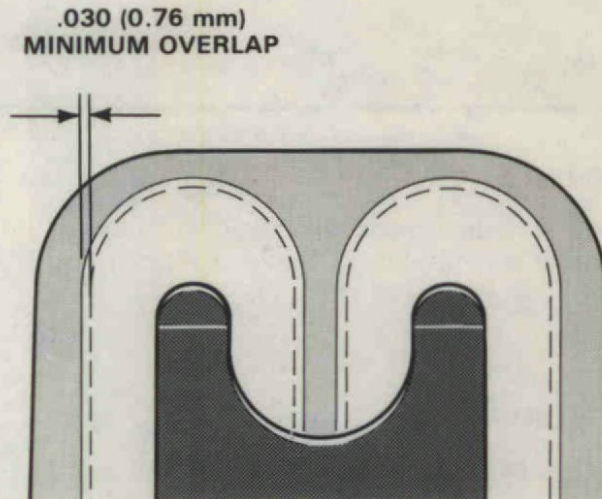

Figure 33. Measuring Reed Overlap.
C. Carefully locate reed over openings in reed plate. A minimum of .030" (0.76 mm) overlap is required. Figure 33.